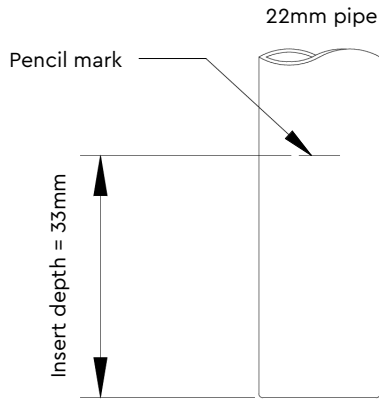

Figure 10
1. Ensure the pipe is free from all score marks and deformities in the area of the insertion depth (Figure 10) and cut the pipe square, removing all burrs and sharp edges to prevent damage to the sealing O-ring.